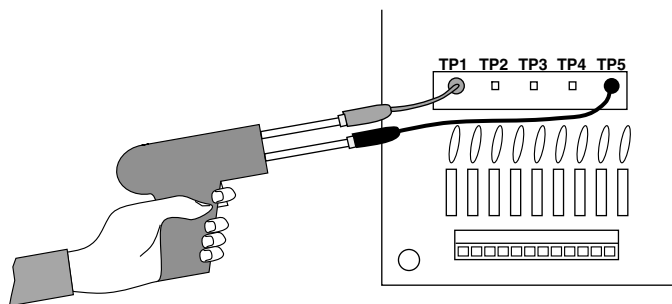

Figure 26.
4. Clip a short lead to one post of the gun and to test point TP5 (Common). See Figure 26.
5. Clip a short lead from the other post of the soldering gun to test point TP1 (Phase A). See Figure 26.